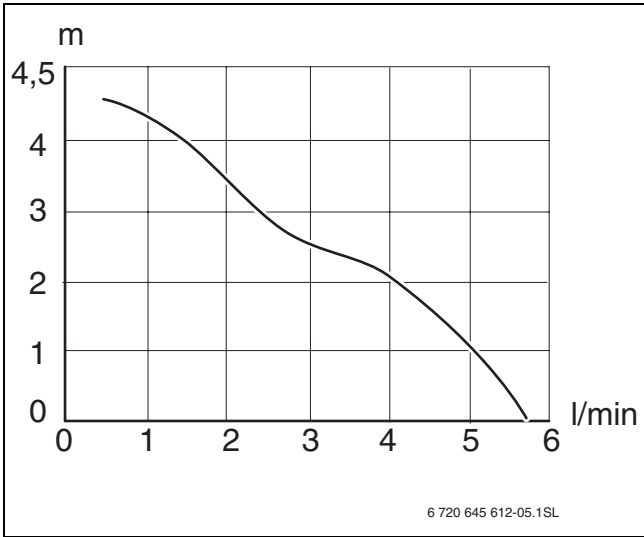
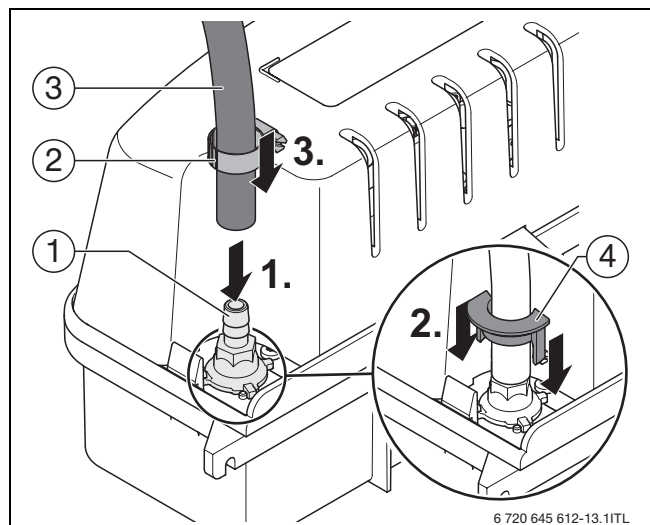
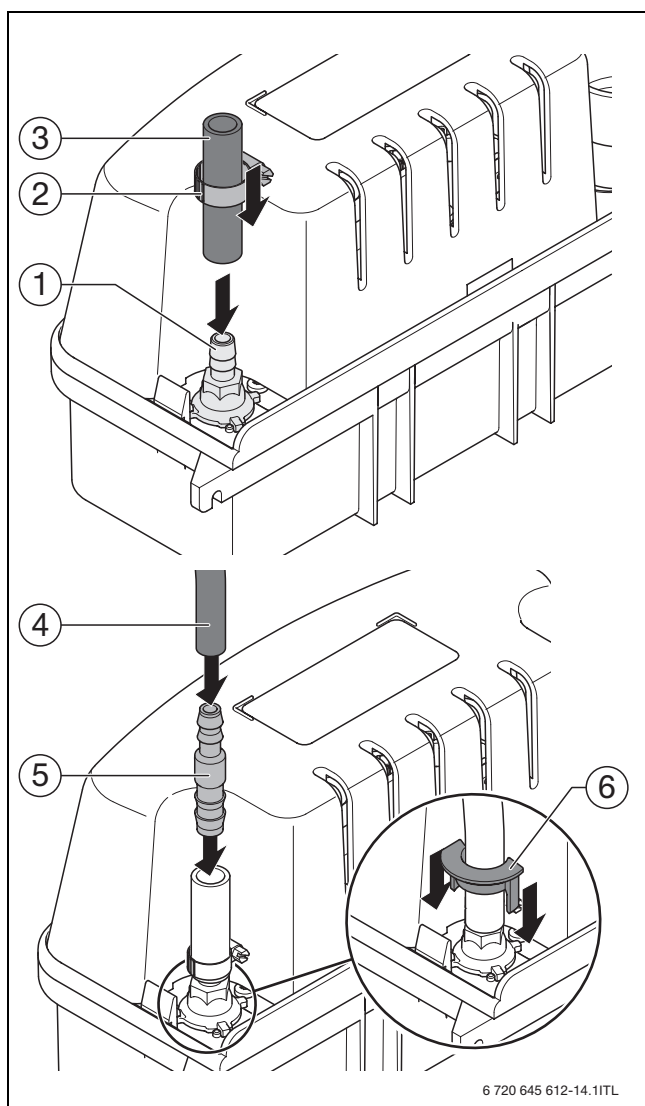
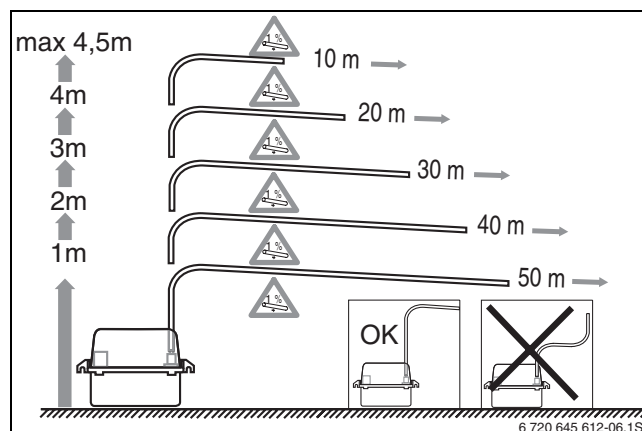

Fig. 3 Pump rate (l/min) subject to the delivery head (m)
Fig. 8 Fitting the drain hose
Fig. 9 Fitting the drain hose with an adapter
Fig. 10 Routing the drain hose
- Observe the maximum delivery head of 4.5 m (→ Fig. 3 and Fig. 10).
- Ensure the hose is routed correctly with a fall of 1 % (→ Fig. 10).
- ▶ Use an adapter if the hoses have different diameters (→ Fig. 9).
- Observe Fig. 3, Fig. 8, Fig. 9 and Fig. 10.